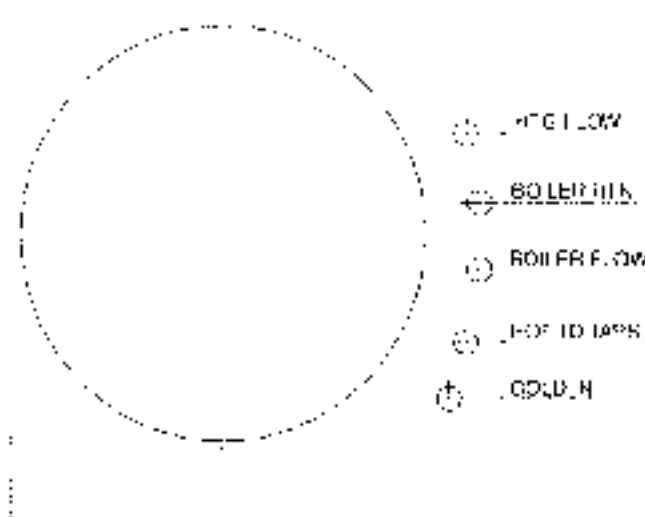

Figure 3.1 Typical arrangement of pipework in cylinder cupboard
- Make all water connections in accordance with the labelling on the thermal store and the associated pipework as shown in Figure 3.1.
4. Decide at what stage in your installation work you are going to fit the BoilerMate III. We would suggest that the BoilerMate III should be fitted first and the pipes run from it to the boiler, radiators and domestic hot water supply system subsequently in that order. If the BoilerMate III is installed early in the construction process ensure it is adequately protected or removed and refitted later. If it is decided to install the BoilerMate later in the construction process, the first fix pipework should enter the cylinder cupboard as shown in Figure 3.1